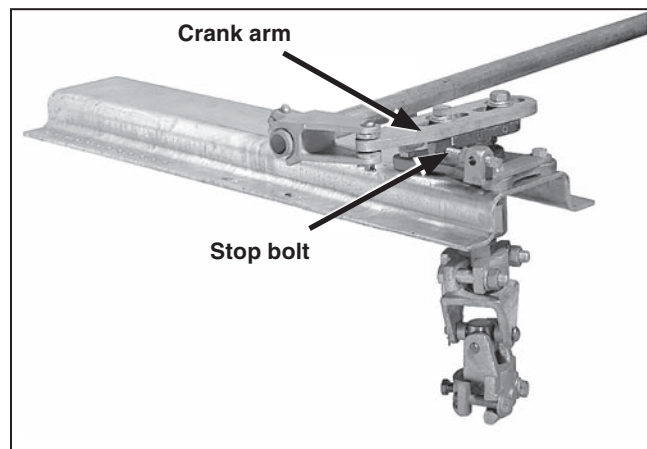

Figure 10. Outboard bearing crank-arm against stop bolt.
STEP 7. Make sure the outboard bearing crank-arm(s) touches its stop bolt. See Figure 10.